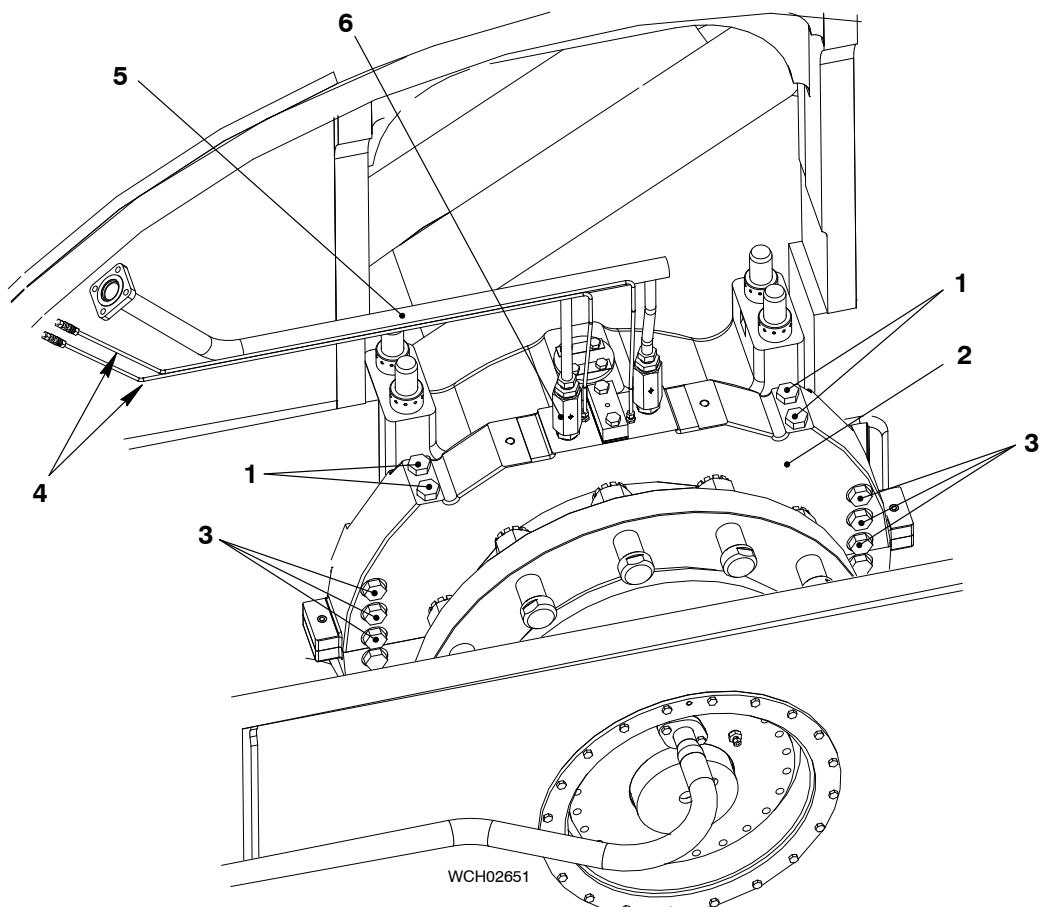

Fig. 5
- 8) Install the four M30 bolts (1, Fig. 5). Refer to 0352-2, paragraph 1 for the applicable torque value.
- 9) Apply Molykote paste to the threads of the six bolts (3).
- 10) Torque the six M30 bolts (3) to 900 Nm (40°).
- 11) Attach the two pipes (4) to the top cylinder (2).
- 12) Attach the oil inlet pipe (5) and the two non-return valves (6).